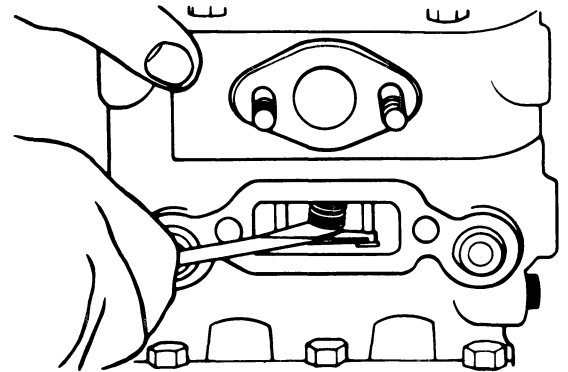

Figure 9. Removing Spring
2. Insert screwdriver blade under the unloader spring and raise spring to remove it. See Figure 9.
6. Remove o-ring and backup ring from pistons. See Figure 9.